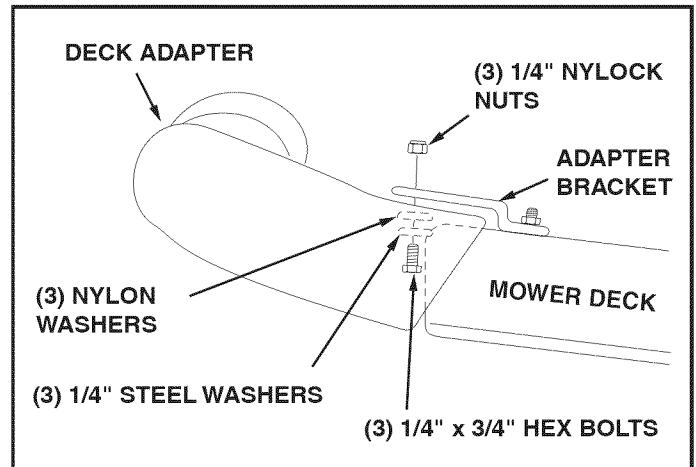

FIGURE 29
- With deck adapter positioned correctly over the discharge opening, use the adapter bracket as a template and drill three 9/32" diameter holes in the top of the deck adapter. See figure 29.
- Bolt deck adapter to bracket using three 1/4" x 3/4" bolts, nylon washers, 1/4" flat washers and 1/4" nylock nuts. Nylon washers should be against the inside of the deck adapter. See figure 29.